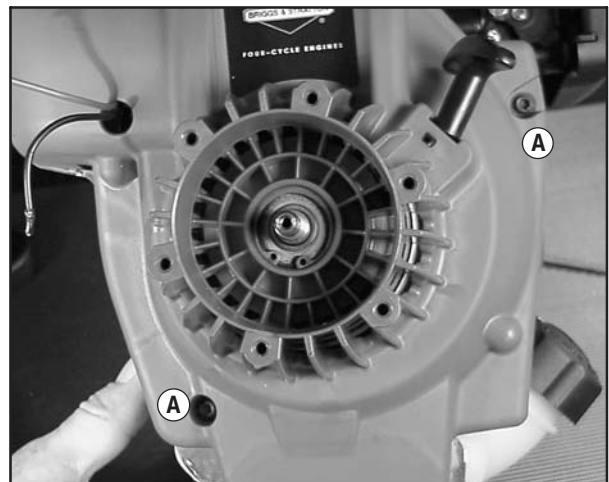

Fig. 7
4. Remove 2 machine screws (A) from blower housing, Fig. 7.